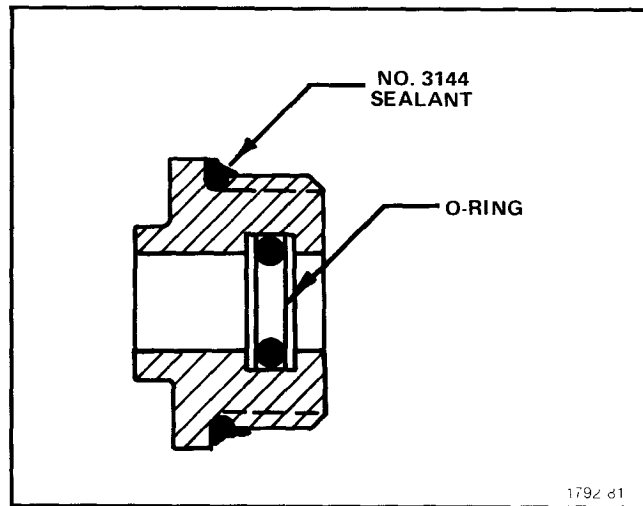

Fig. 5-28. Lubrication of the O-rings and sealing for the cam-switches.
24. Install cam switch inserts (see Fig. 5-28)
- 1. Apply G-661 lubricant to o-ring and install as shown in Fig. 5-28.